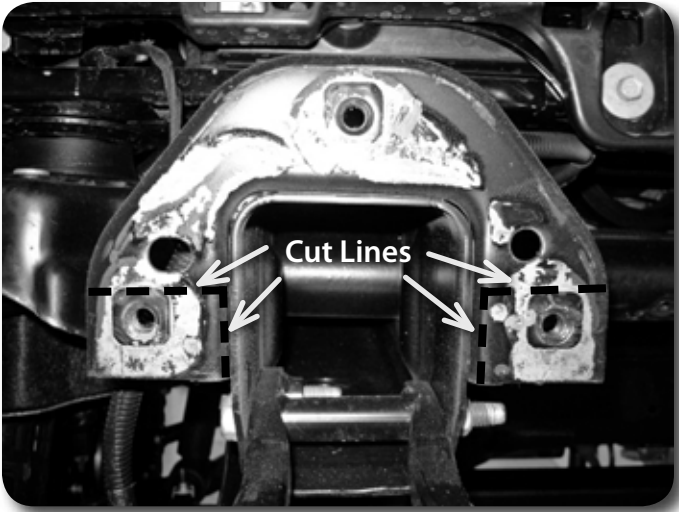

Figure 13
23. It is necessary to cut the front bumper frame mounts to provide clearance for the bumper in its raised position. Make a cut line even with the top of the lower weld nuts as shown in **Figure 13**. Using a suitable cut off tool, cut at the mark and down flush with the side of the frame.